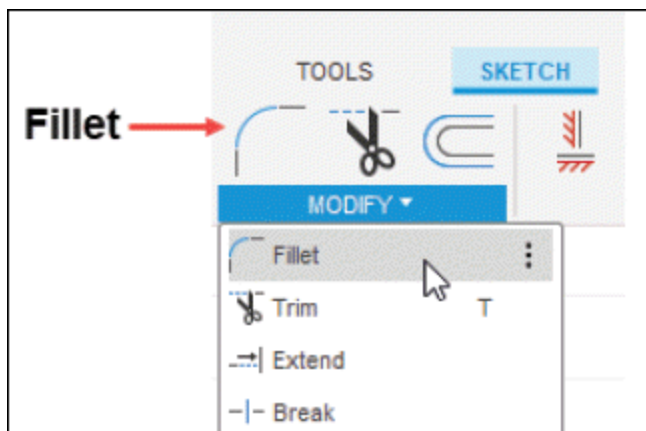

Figure-66. Fillet tool
- Click on **Fillet** tool of **MODIFY** drop-down from **Toolbar**; refer to Figure-66. You will be asked to select the entities.